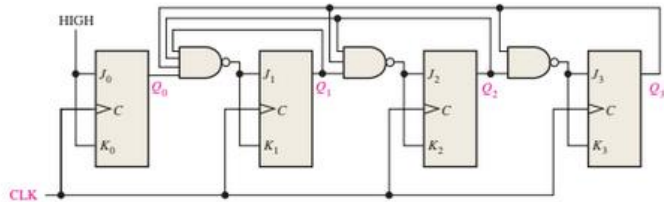

FIGURE 9-74
19. Determine the sequence of the counter in Figure 9-74. Begin with the counter cleared.